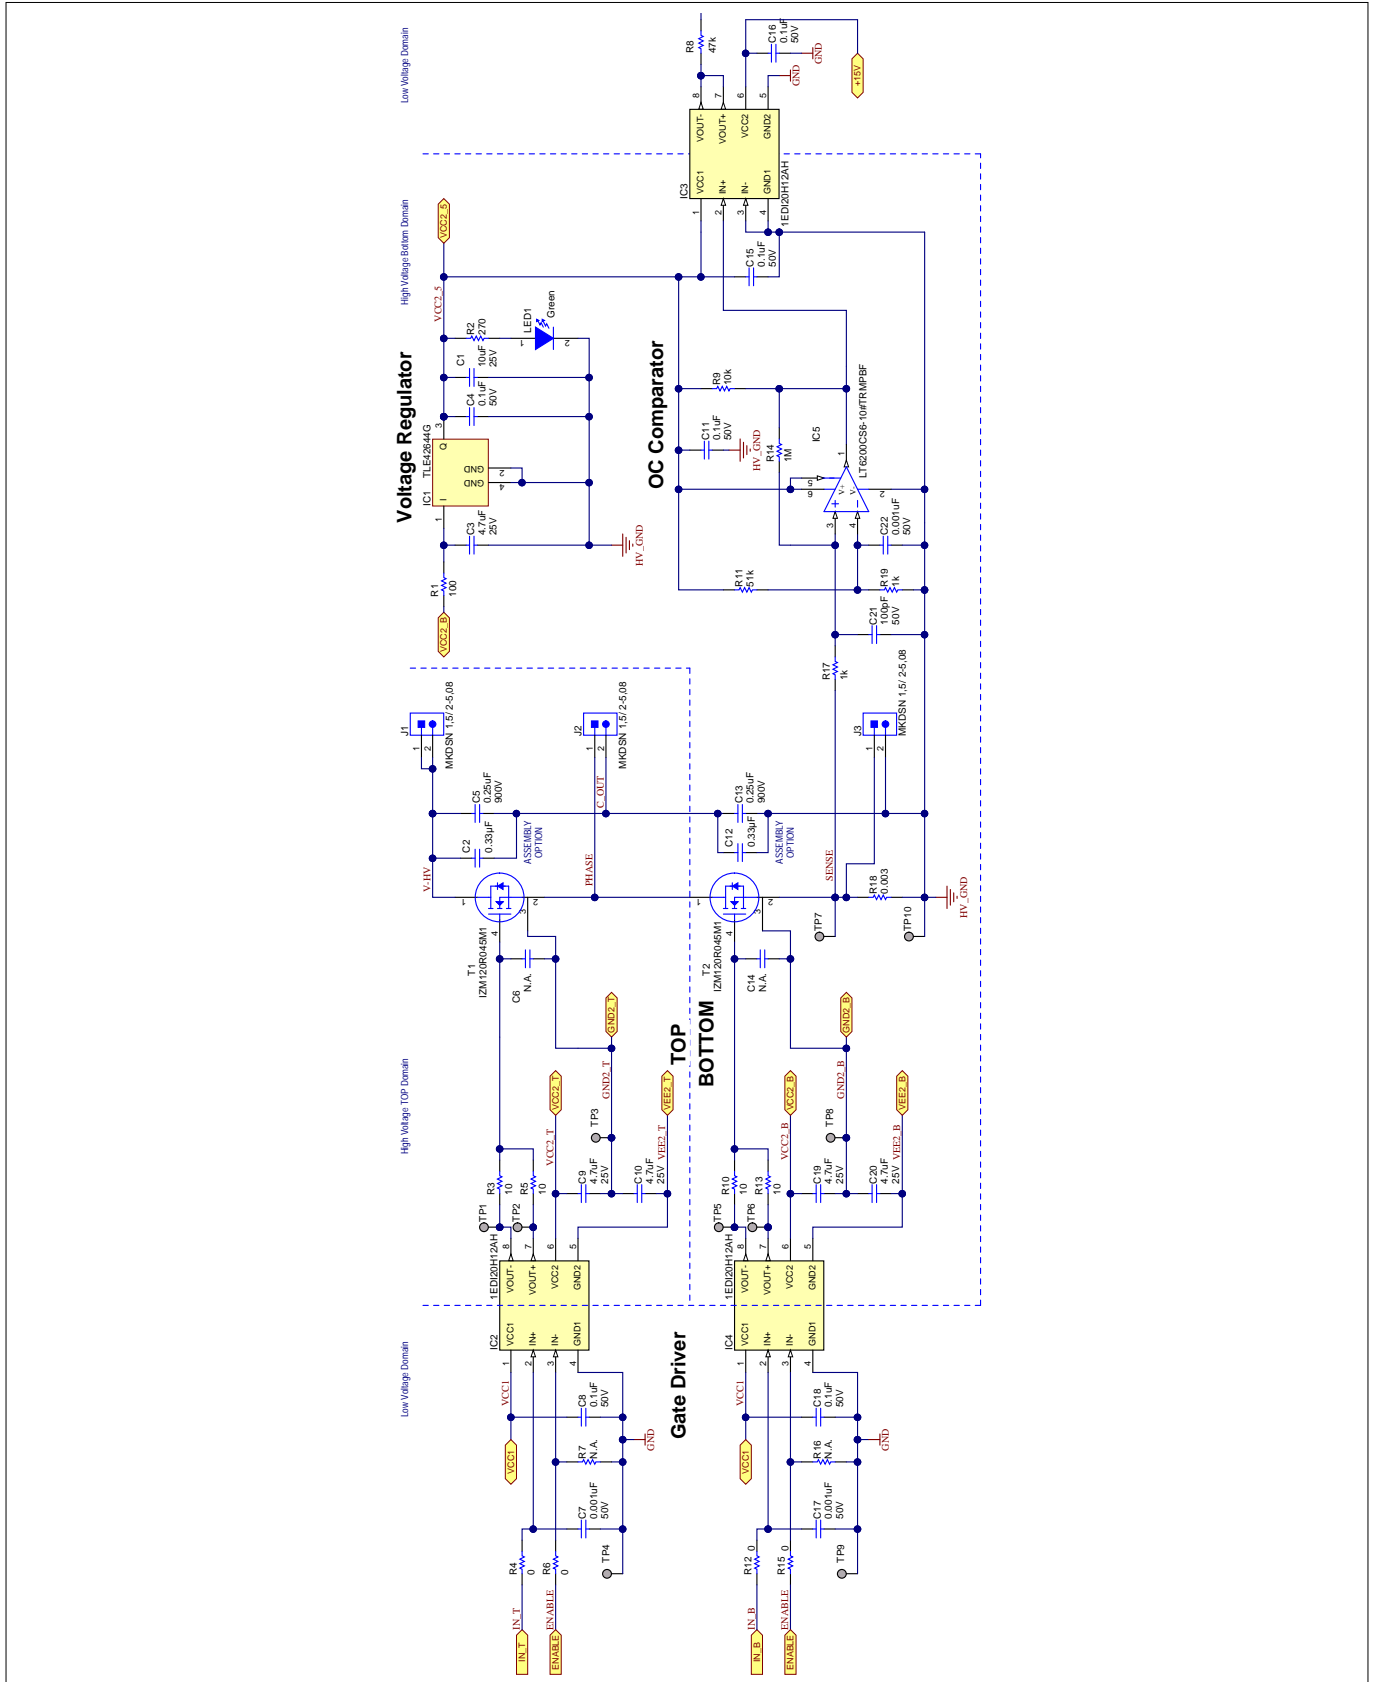

Figure 4 The gate driver schematics
- Gate driver schematic, see Figure 4, high side and low side gate driver in a half bridge configuration and the over-current detection and protection circuit with voltage regulator and feedback path.
The Low voltage domain is shown on the left hand side and on the right hand side of Figure 4. It's typically used to connect to a microcontroller and supplied with VCC1. Every supply pin VCC1 has a blocking capacitor C8 and C18 to GND1.